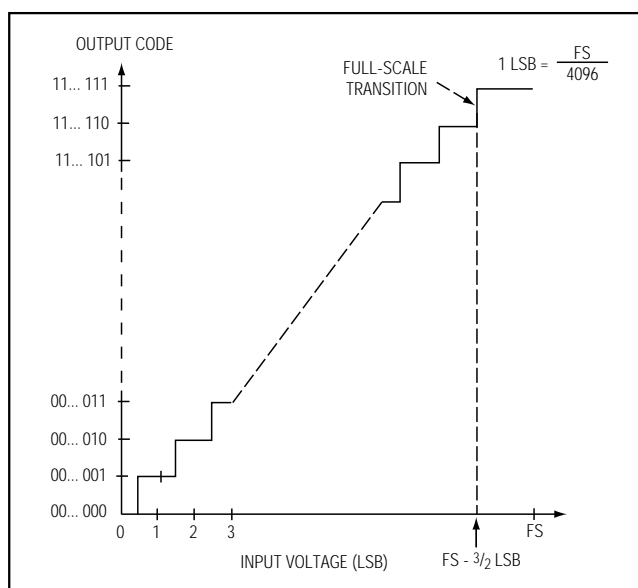

Figure 13a. Unipolar Transfer Function
Output data coding for the MAX127/MAX128 is binary in unipolar mode with $1\text{LSB} = (\text{FS}/4096)$ and two's complement binary in bipolar mode with $1\text{LSB} = [(2 \times |\text{FS}|)/4096]$. Code transitions occur halfway between successive-integer LSB values. Figures 13a and 13b show the input/output (I/O) transfer functions for unipolar and bipolar operations, respectively. For full-scale (FS) values, refer to Table 3.